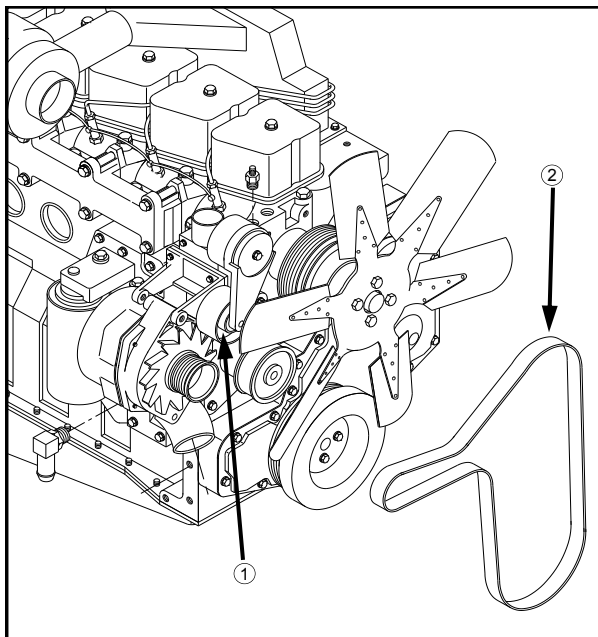

FIG 7.43
**REMOVAL** - Insert a 3/8 inch square ratchet drive into the belt tensioner (fig. 7.43, item 2).